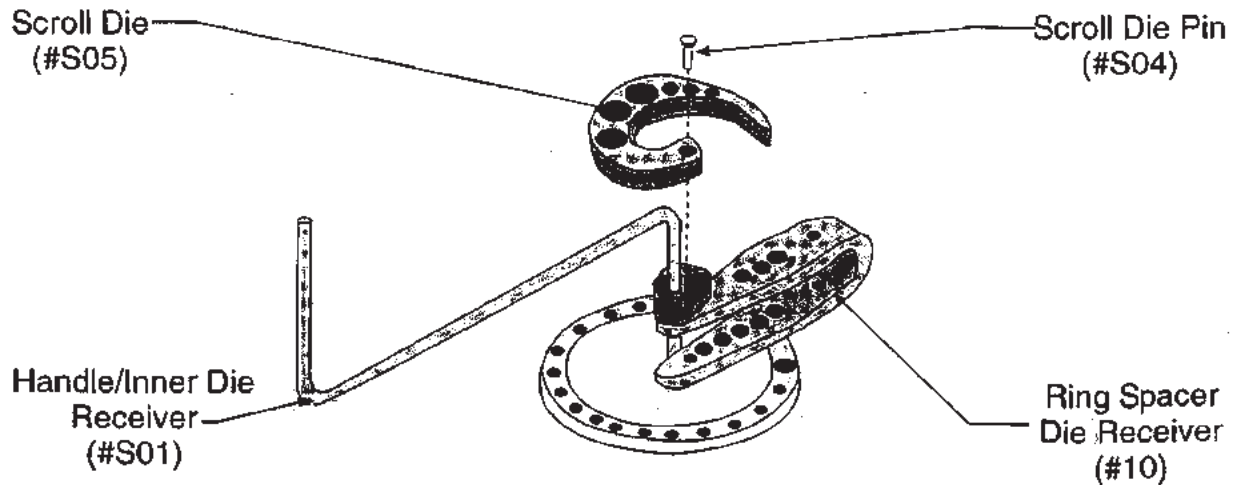

Figure 2 -- Scroll Die Assembly
Step 2: Attach the SCROLL DIE (#S05) to the HANDLE/INNER DIE ASSEMBLY using the SCROLL DIE PIN (#S04) as shown in Figure 2.